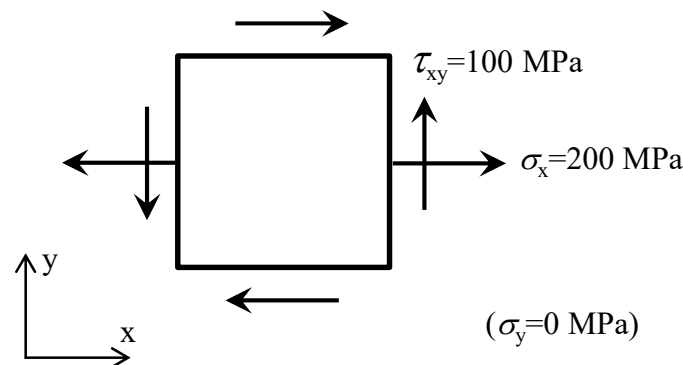

Fig. 3
- (1) The plane stresses ( $\sigma_x=200$  MPa,  $\sigma_y=0$  MPa,  $\tau_{xy}=100$  MPa) are given as shown in Fig. 3. Draw the Mohr's stress circle corresponding to this stress state. Find the magnitude and direction of the maximum and minimum principal stresses.
- (2) The yield strength of a homogeneous isotropic material was evaluated by a uniaxial tensile test, and the material yielded when the tensile stress reached 250 MPa. Determine whether or not this material will yield when subjected to the plane stress as shown in Fig. 3, and the reason should also be given. Here, the yield will occur when the maximum shear stress reaches the material-specific limit value.